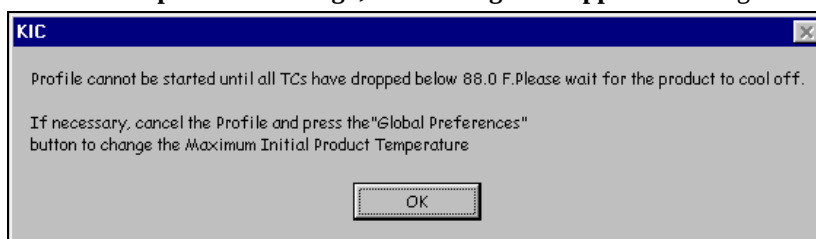

Figure 166
**If any of the selected thermocouples read too high, this message will appear.** See Figure 166.